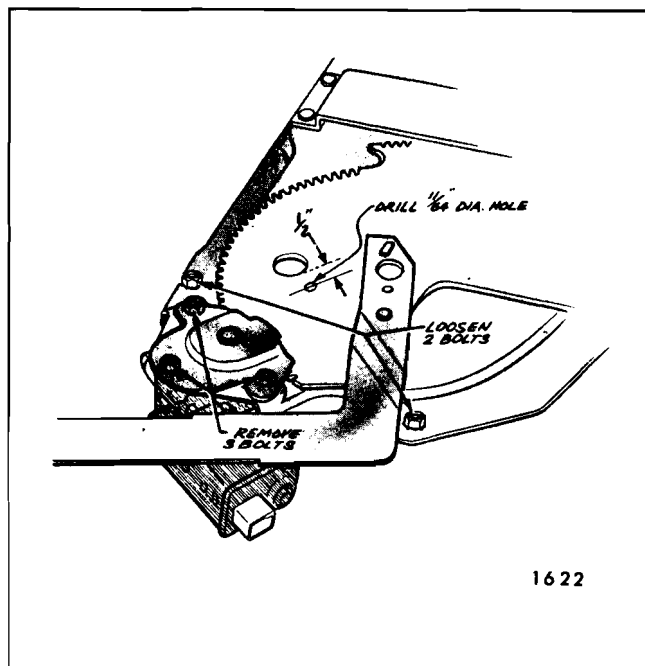

Fig. 9-14—Tail Gate Regulator Motor Assembly
4. Drill a 1/8" hole through regulator sector gear and back plate (Fig. 9-14). Do NOT drill hole closer than 1/2" to edge of sector gear or back plate. Install a pan head sheet metal tapping screw (#10-12 x 5/8) in drilled hole to lock sector gears in position.